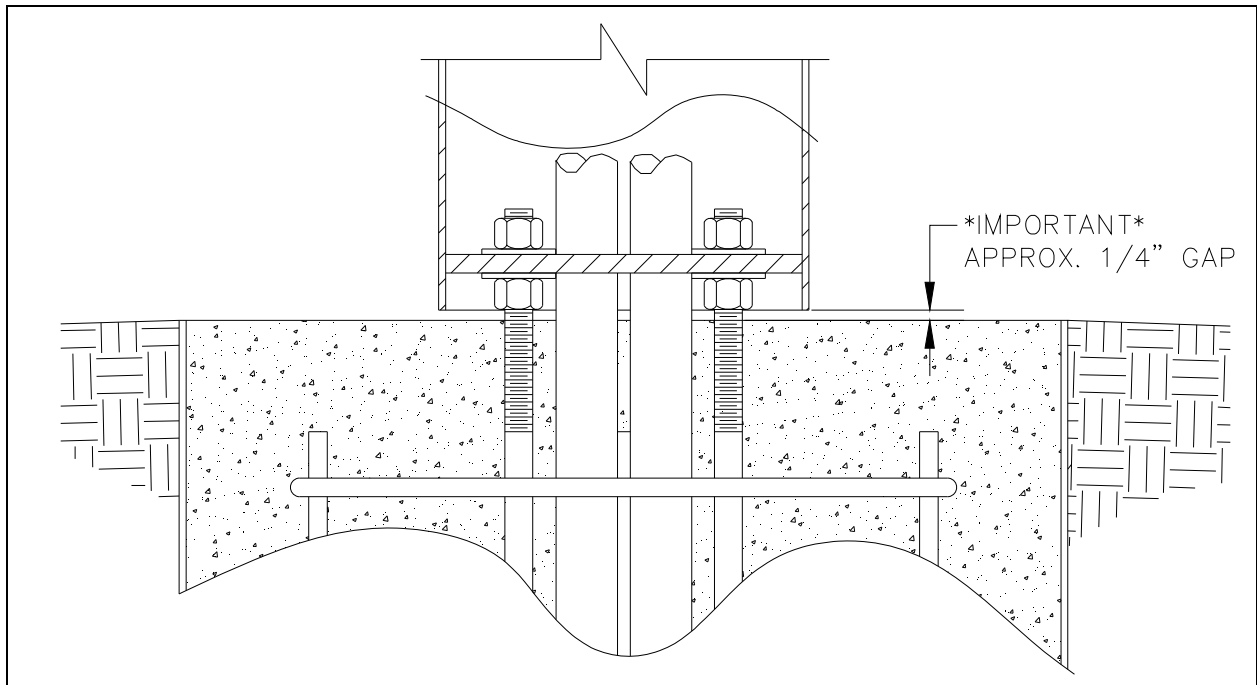

Figure 7. Assembled View
- Verify that a 1/4-inch minimum air gap exists between the base of the tower and the top of the concrete pier (see Figure 7).